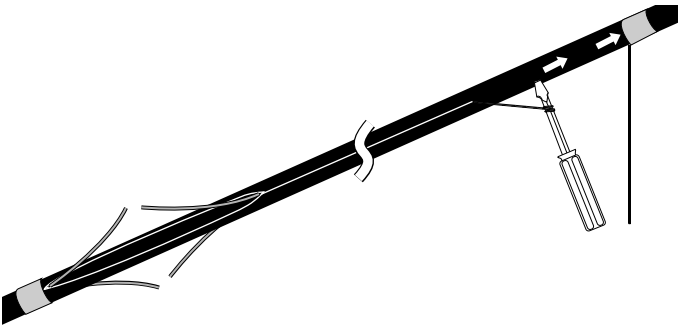

Figure 29
7.9 Using the shaft of a screwdriver as a handle, pull one rip cord at a time through the sheath to the opposite wrap of tape (Figure 29).